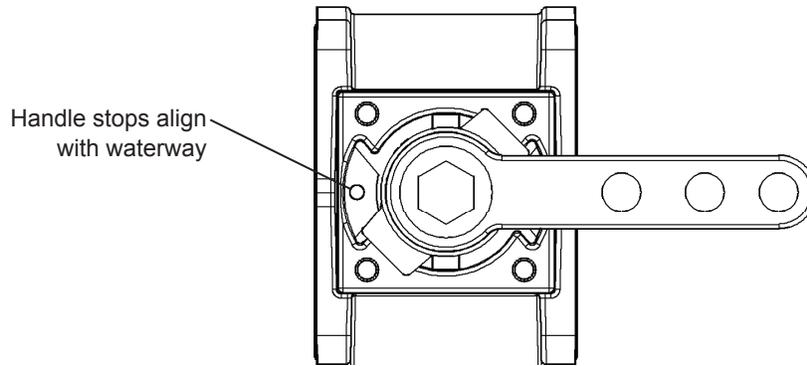

Figure 5
3. Rotate the actuator assembly on valve body until handle stops align with waterway as shown in Figure 5.